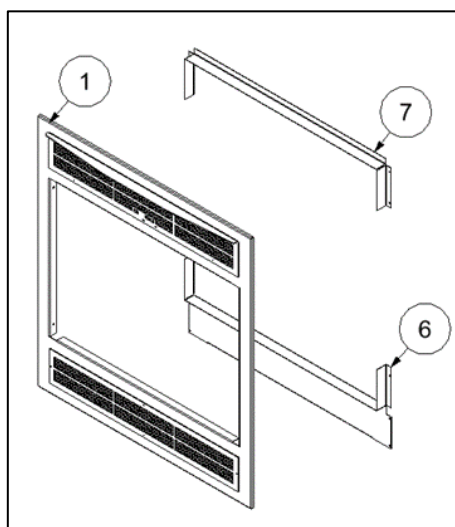

Figure 3-14: Traditional Surround Components
The traditional surround comprises louvers below (intake) and above (outtake) the door. All components and fasteners are included in the surround kit. Refer to Figure 3-14 and Table 3-2 for the instructions below.
4. Place the surround (Item 1 in Figure 3-14) within the door holder and secure it in place with four black screws (one on each corner). Make sure that the handles of the Combustion Air Control pass through the slots of the surround.